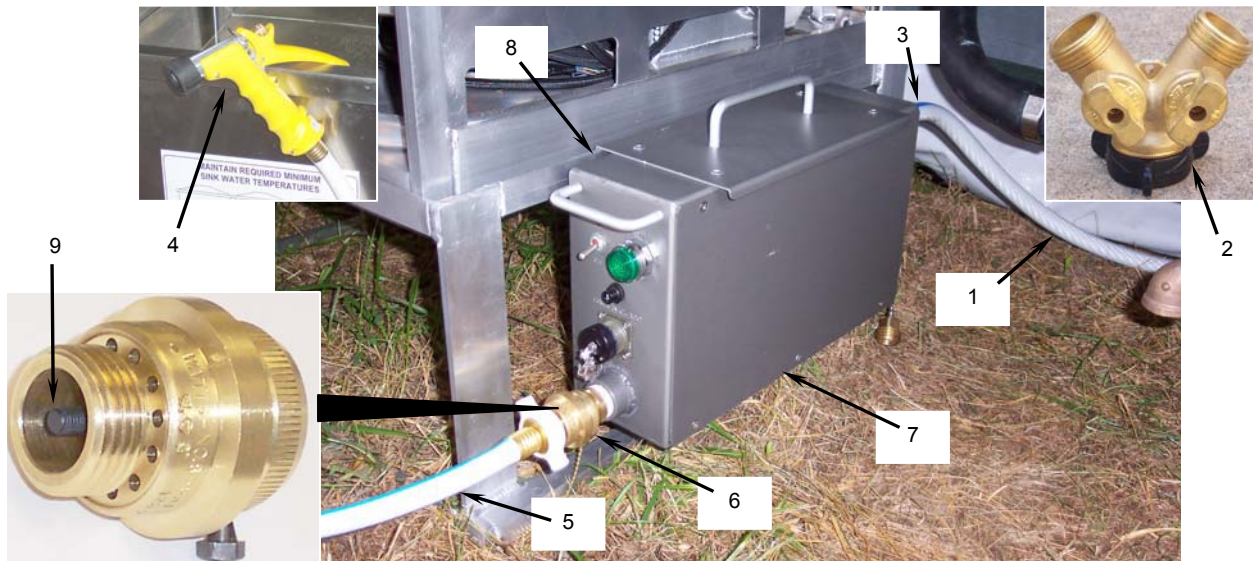

Figure 37. Sink Fill Pump Assembly Removal.
- b. Disconnect the 50-ft water supply hose (**Figure 37, Item 1**) from the potable water source.
- c. Disconnect the Y-adapter (**Figure 37, Item 2**) if used and secure for pack out.
- d. Disconnect the 50-ft water supply hose (**Figure 37, Item 1**) from the water inlet (**Figure 37, Item 3**) at the back of the sink fill pump assembly. Drain and roll the hose. Connect the ends of the hose together.
- e. Disconnect the water nozzle (**Figure 37, Item 4**) from the 15-ft sink fill hose (**Figure 37, Item 5**).
- f. Disconnect the 15-ft sink fill hose (**Figure 37, Item 5**) from the vacuum breaker (**Figure 37, Item 6**) at the front of the sink fill pump assembly. Drain and roll the hose. Connect the ends of the hose together.
- g. Lift the sink fill pump assembly (**Figure 37, Item 7**) off the sink assembly base rack (**Figure 37, Item 8**).
- h. Tilt the sink fill pump assembly to empty residual water out of the sink fill pump assembly inlet (**Figure 37, Item 3**).
- i. Tilt the sink fill pump assembly and lightly pull stem (**Figure 37, Item 9**) from inside the vacuum breaker to empty residual water out of the sink fill pump assembly outlet.